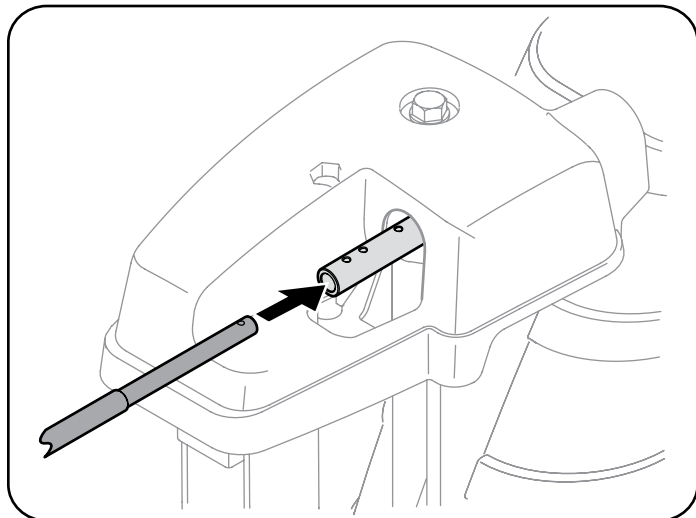

Figure 28
2. Insert the round end of the chute control rod into input of chute control head. Push rod as far into the chute control head as possible, keeping the holes in the rod pointing upward. See Figure 28.